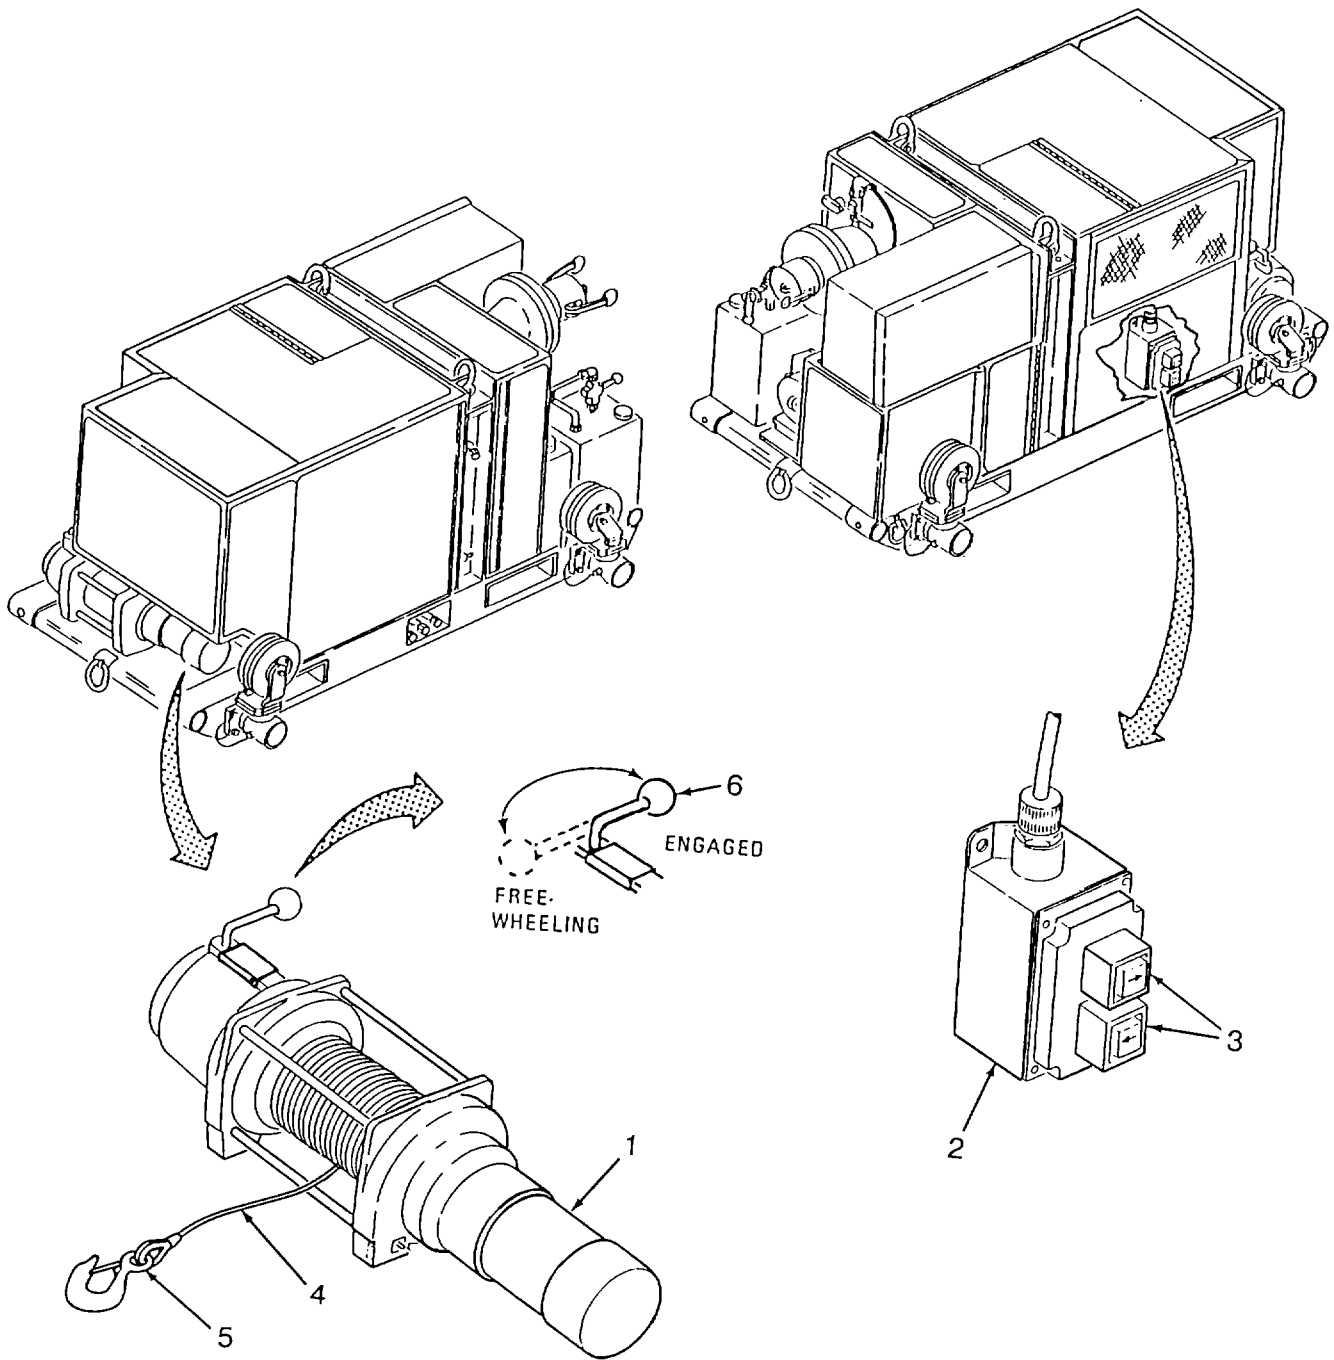

Figure 1-3. Winch
d. Winch. Refer to Figure 1-3.